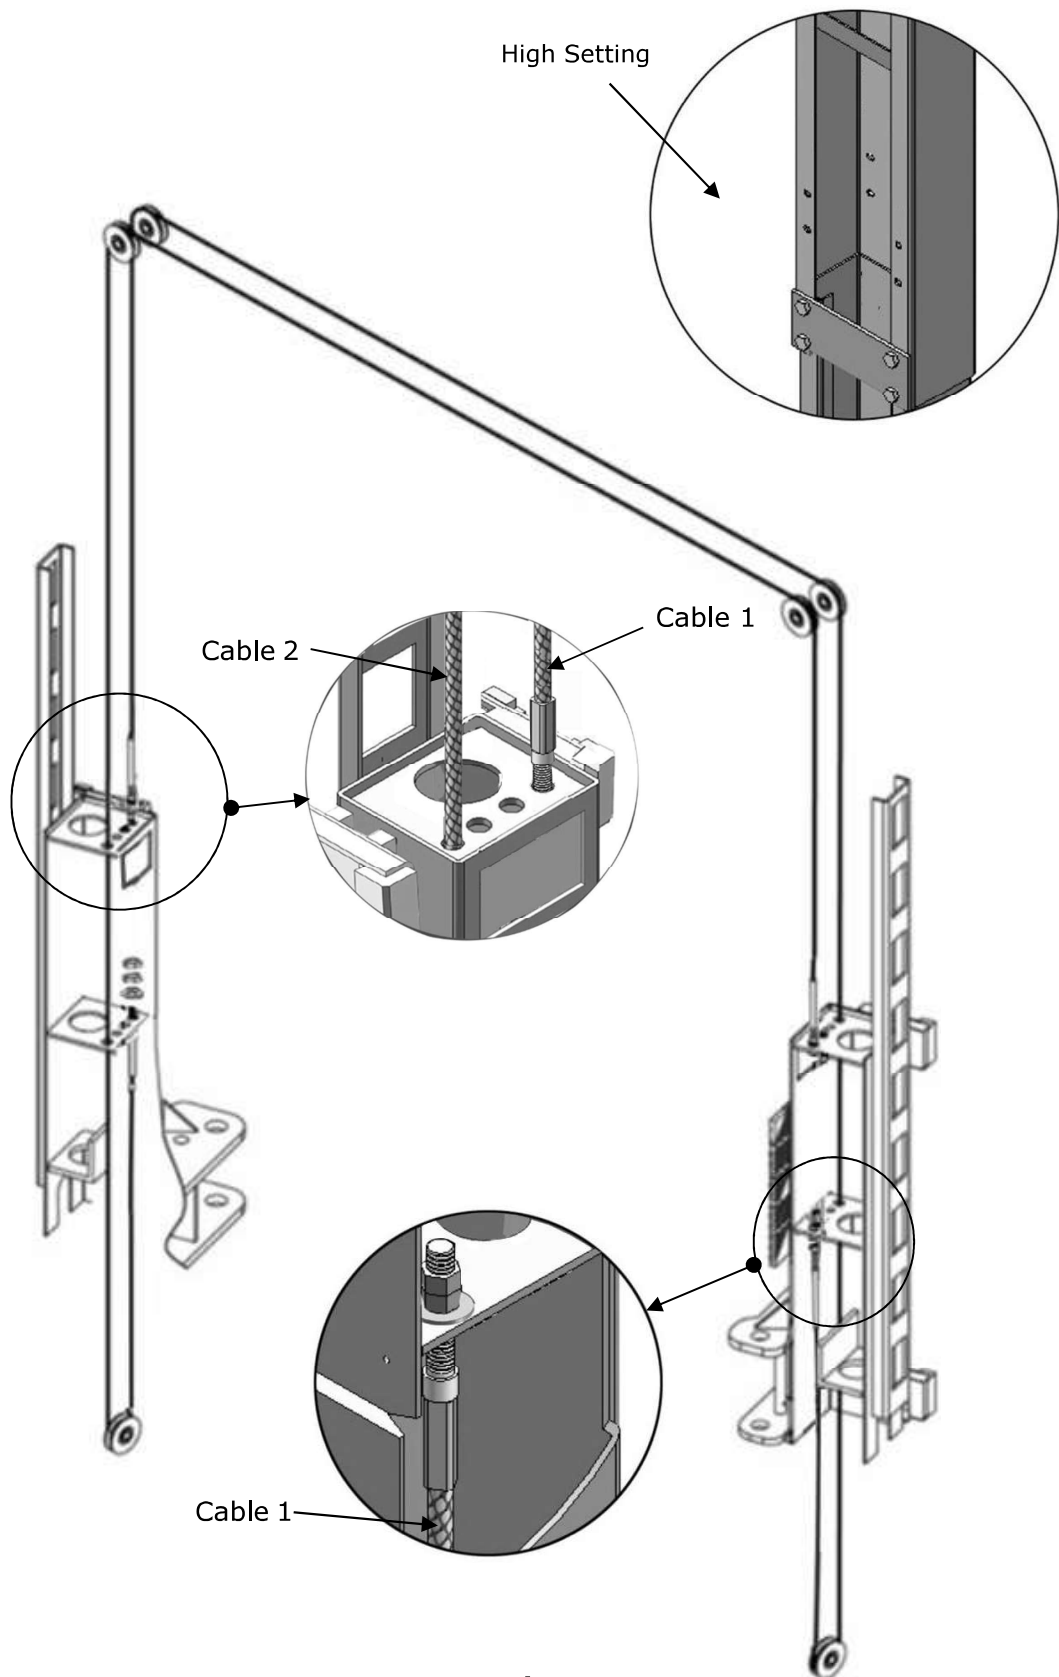

Fig.28
1.2 Connecting cable for high setting (See Fig. 28)